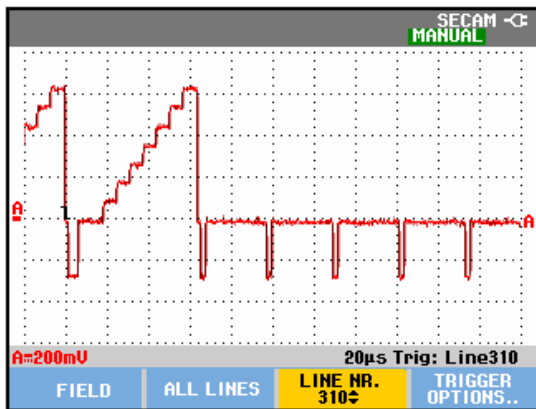

Figure 4-14. Trace for PAL/SECAM line 310
- ⇒ line number 310 for PAL or SECAM, see Figure 4-14.